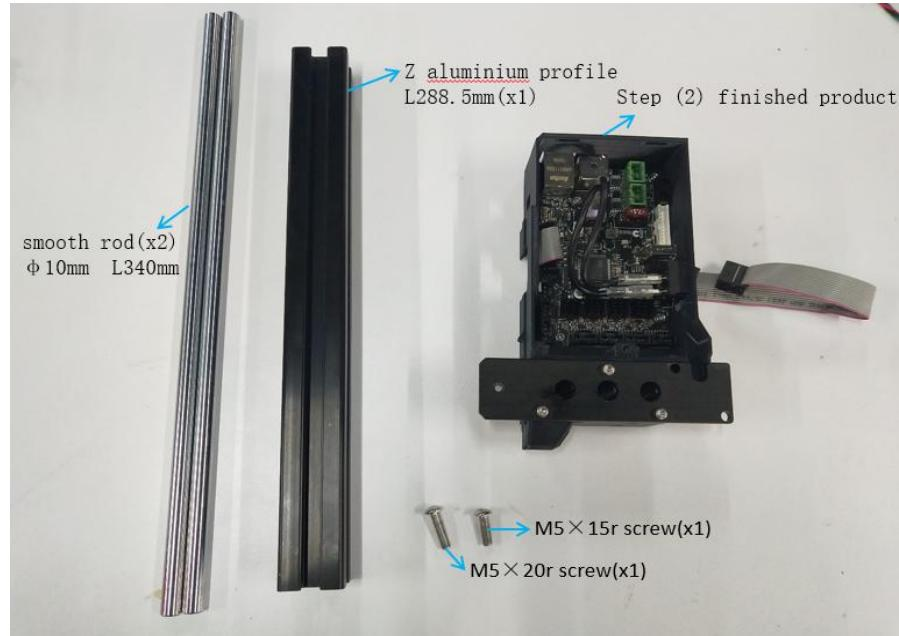

Figure 3.3.1
**Step 3-3-1:** As shown in Figure 3.3.1, prepare the materials and check whether the quantity of materials is correct, and prepare for the next installation.